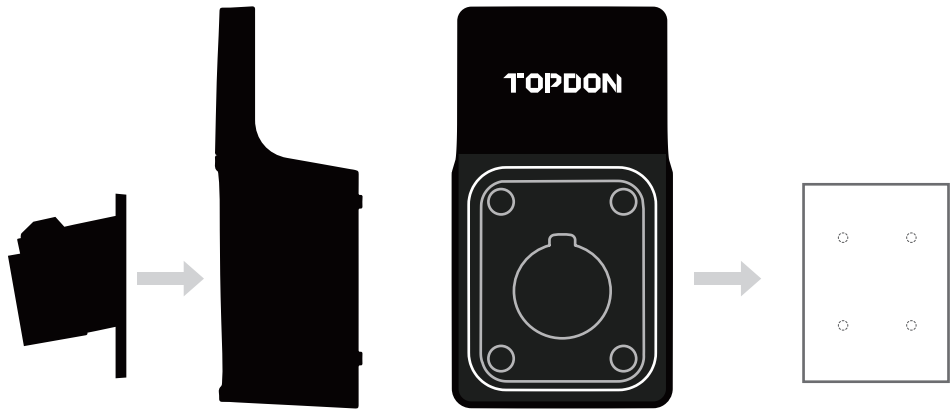

Fig. 4-22
4. Fit the socket into the cable holder. (See Fig. 4-22)